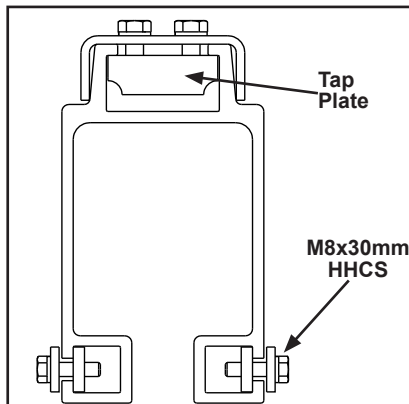

Figure 3-73
- Step 1. Remove cross bolts. Slide top rail mounting bracket on top of bracket channel and tap plate into bracket channel at top of rail. Position per system layout. See Figure 3-73.